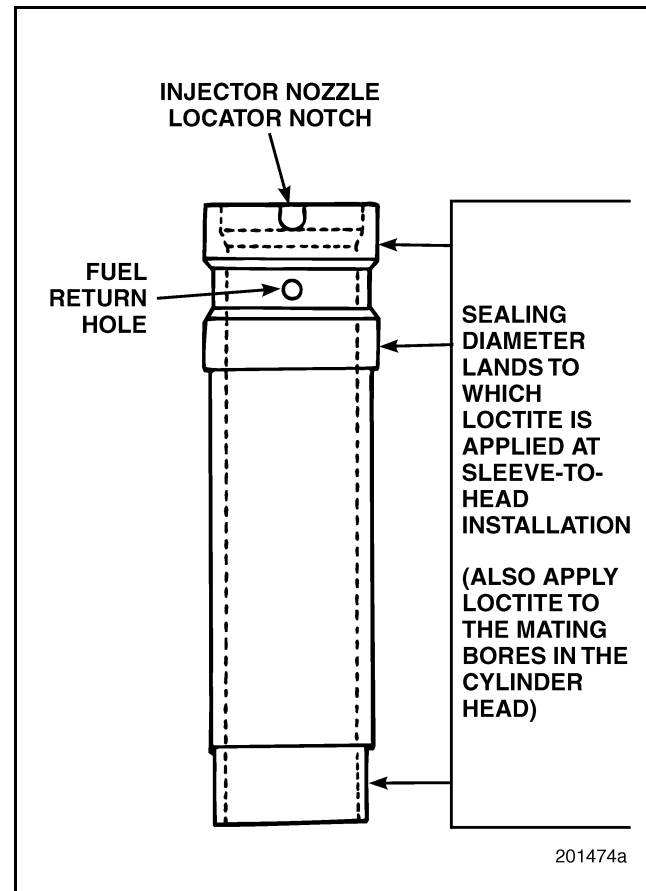

Figure 202 — Fuel-Injection Nozzle Insert
2. Apply Loctite® 620 to the cylinder head and insert surfaces. Refer to Figure 202.